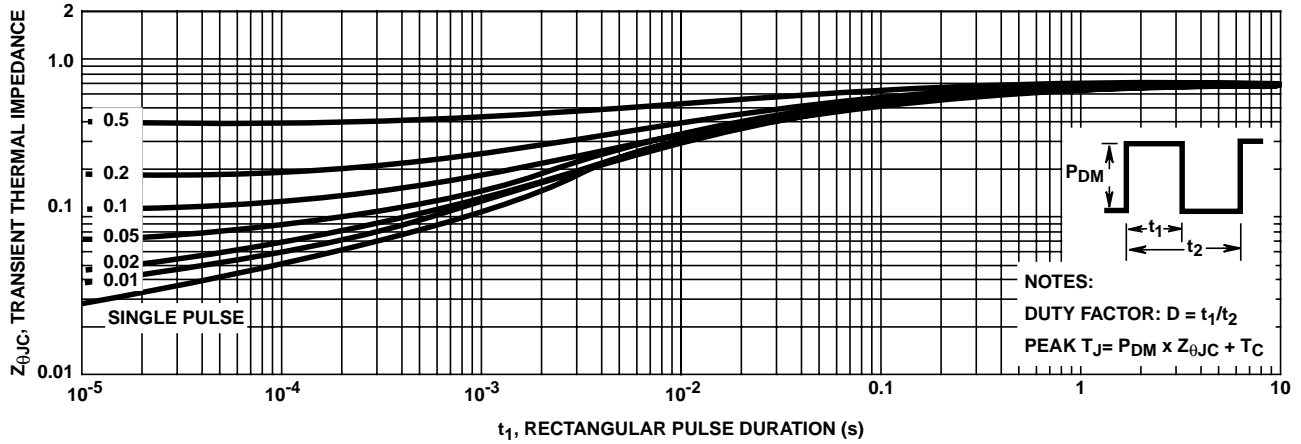

FIGURE 3. MAXIMUM TRANSIENT THERMAL IMPEDANCE
3. Repetitive rating: pulse width limited by max junction temperature. See Transient Thermal Impedance curve (Figure 3).